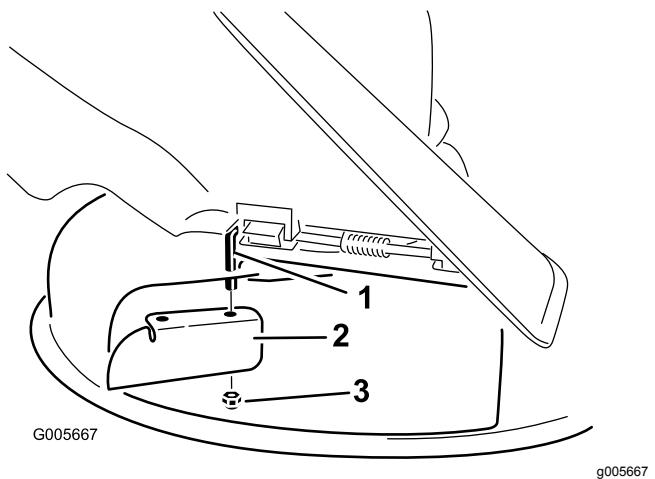

Figure 24
7. Install the cutoff baffle to the exposed pivot rod (Figure 24).
3. Remove the cutoff baffle from the mower deck (Figure 24).